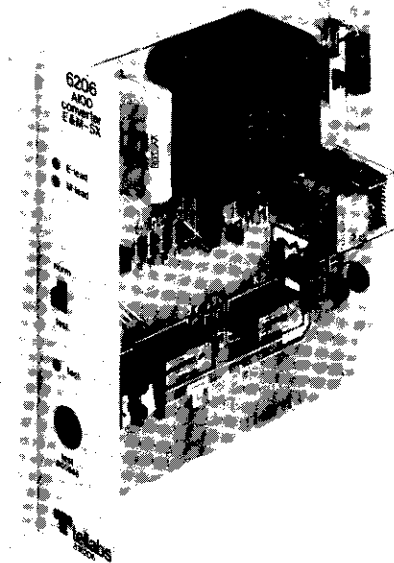

figure 1. 6206 AIOD Converter (E&M-SX) module
1.01 The 6206 AIOD Converter (E&M-SX) module (figure 1) is an E&M-to-simplex signaling converter used in Automatically Identified Outward Dialing (AIOD) PBX applications. Specifically, the 6206 converts E&M supervision from a conventional E&M signaling link to simplex supervision over a metallic pair to a central office AIOD Interface Circuit or Station-Identification Frame. The 6206 provides supervisory control at the office end of a single PBX-CO AIOD circuit. The 6206 is functionally equivalent to a Western Electric Co. SD-99435-01 Signaling Converter Circuit.